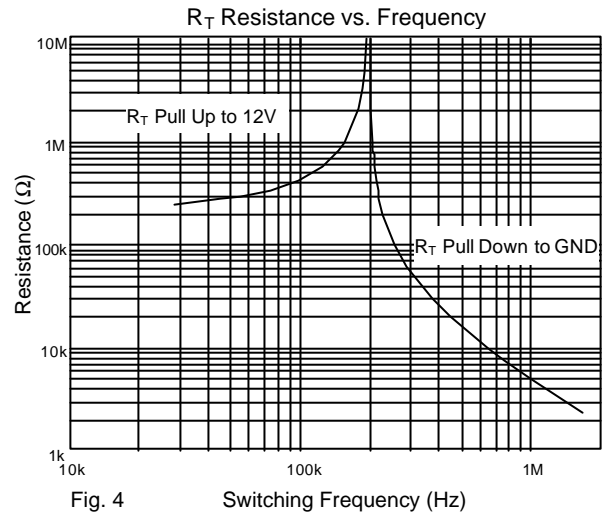

Fig. 4
Pin 13: FAULT/RT: Frequency adjustment pin. Connecting a resistor (RT) from this pin to GND, increasing the frequency. Connecting a resistor (RT) from this pin to VCC, decreasing the frequency by the following figure (Fig. 4).